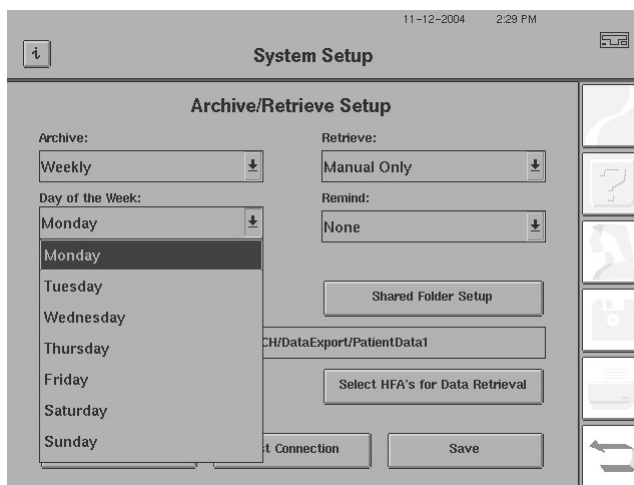

Figure 14.17 Setting Up Weekly Automatic Archiving
- 3 If you select WEEKLY automatic archiving, a Day of the Week drop-down box appears below the Archive drop-down box (Figure 14.17). Select a day from MONDAY to SUNDAY. The HFA II-*i* will archive patient data automatically at instrument startup on the selected day, or on the first day that you power up the HFA II-*i* after that day of the week.